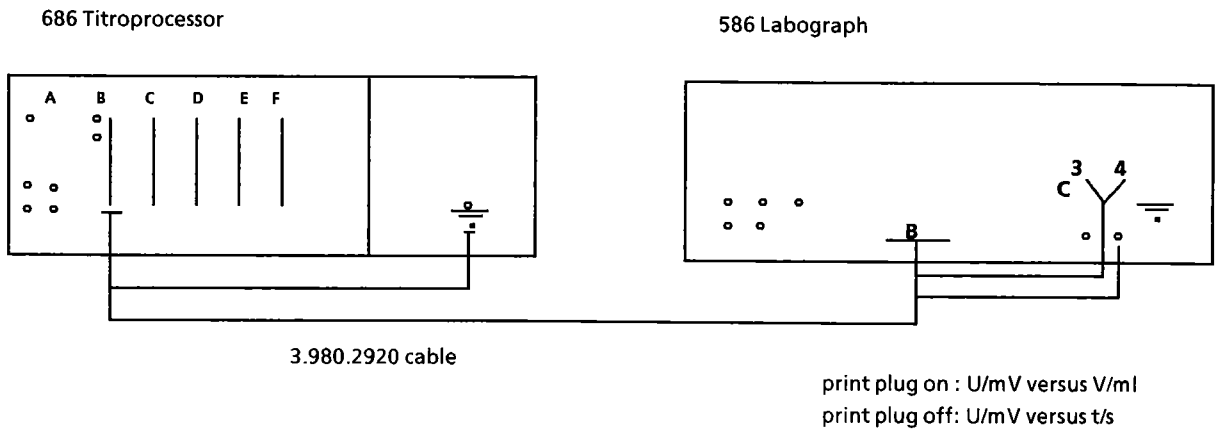

Fig. 4.5
3.540.2191 analogue output interface is available for the connection of 586 Labograph. The interface is inserted in slot B of 686 Titroprocessor and connected to the 586 Labograph as shown in Fig. 4.5. (The inquiry sequence in key "prep steps" is extended if 3.540.2191 interface is inserted, see page 402.)
The connection 686 Titroprocessor - 586 Labograph is established according to Fig. 4.5: